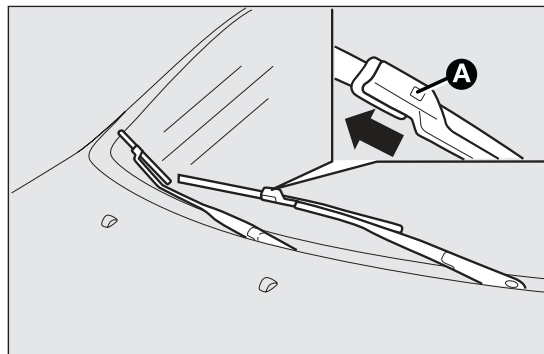

fig. 212
- ☐ press tab A fig. 212 of the coupling spring and remove the blade to be replaced from the arm;